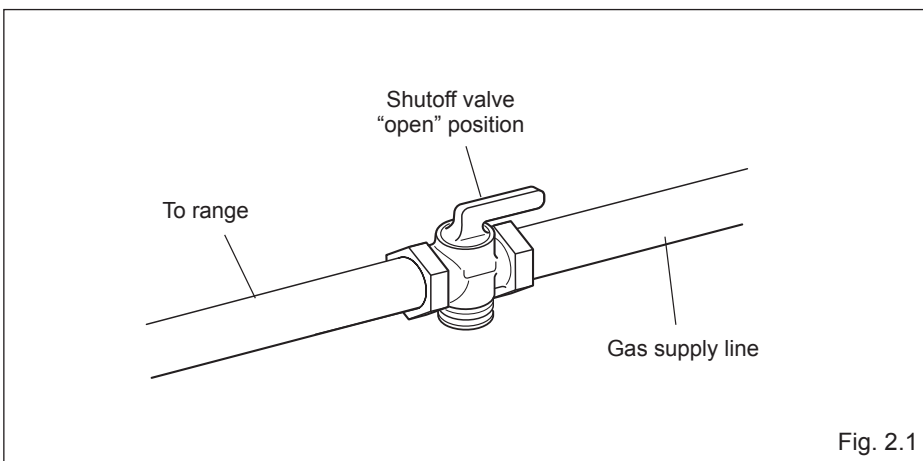

Fig. 2.1
1. Manual Shut-off Valve (fig. 2.1):